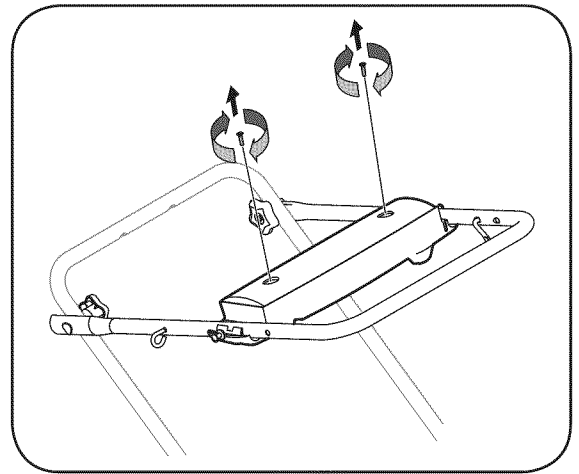

Figure 8
1. Loosen round handle knobs securing upper and lower handles and carefully fold the upper handle down toward the lower handle as shown in Figure 8.
2. Remove the two screws securing battery cover to battery housing and place them to the side, Figure 8.
1. Open the battery cover as described in **Replacing Battery**, see Figure 8.